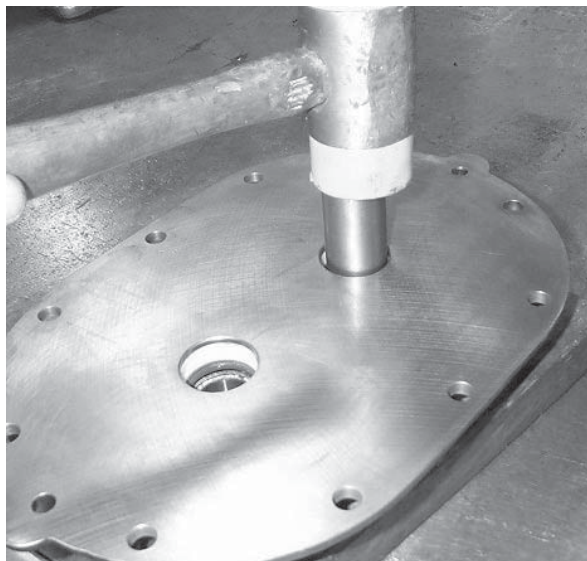

Figure 8-9 – Tapping Bearings Out of End Plates
15. Using a tube or round bar of a slightly smaller diameter than the shaft clearance holes in the end plates, tap the bearings out of the end plates. Remove the bearing retainers before knocking out the bearings (see **Figure 8-9**).